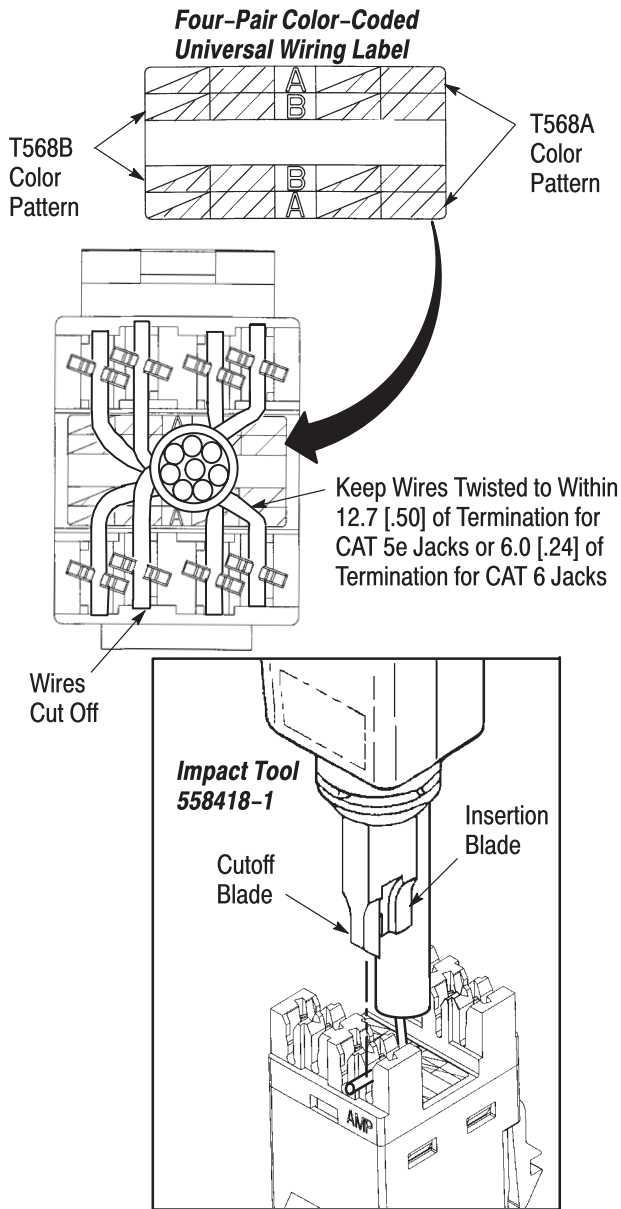

Figure 3
5. Align and lace a color-coded wire pair with the appropriate slots as indicated by the color coding on the wiring label (use minimum slack while maintaining twist, as indicated in Figure 3).